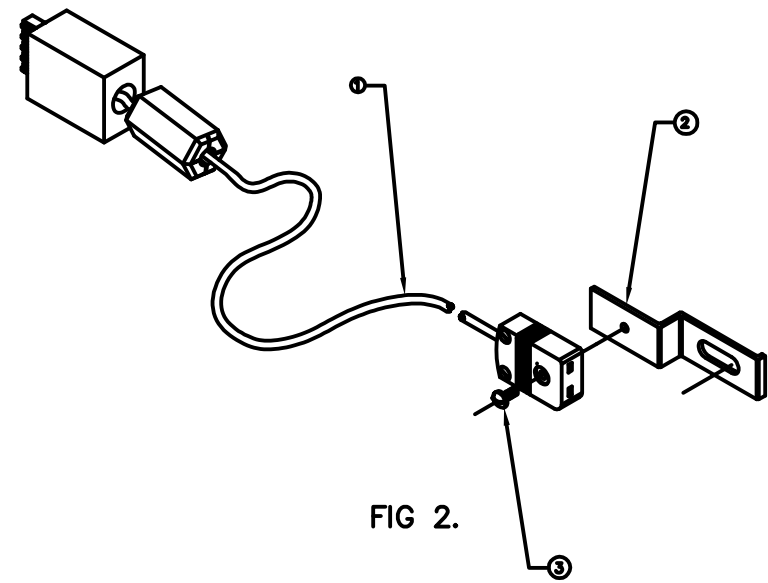

FIG. 2.
2. ATTACH TWO PIN CONNECTOR OF THE THERMOCOUPLE EXTENSION CABLE TO THE BRACKET AS SHOWN ON FIG 2.